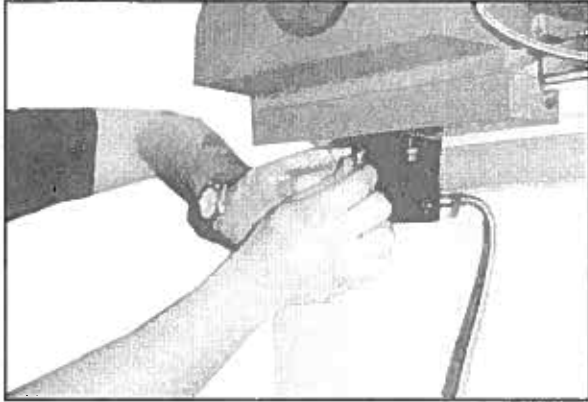

Figure 19. Mounting the bracket to the saddle.
2. Mount the bracket on the saddle (**Figure 19**), to accept the reader head, making sure that the reader head is in-line and parallel to the scale. Secure the cable and leave enough free cable to allow for the travel of the slide.